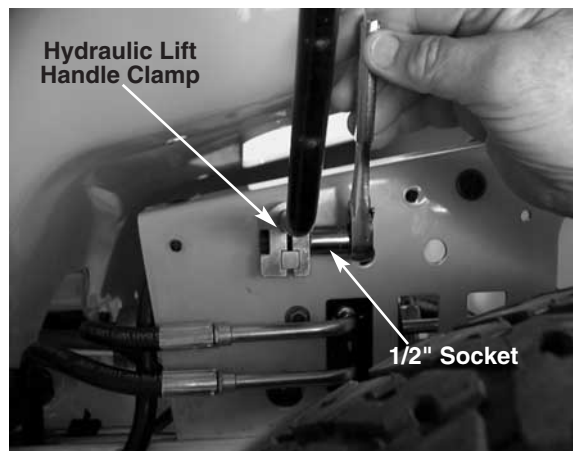

FIGURE 7.
15. Raise the rear fender high enough to access the hydraulic lift handle clamp. See figure 7.